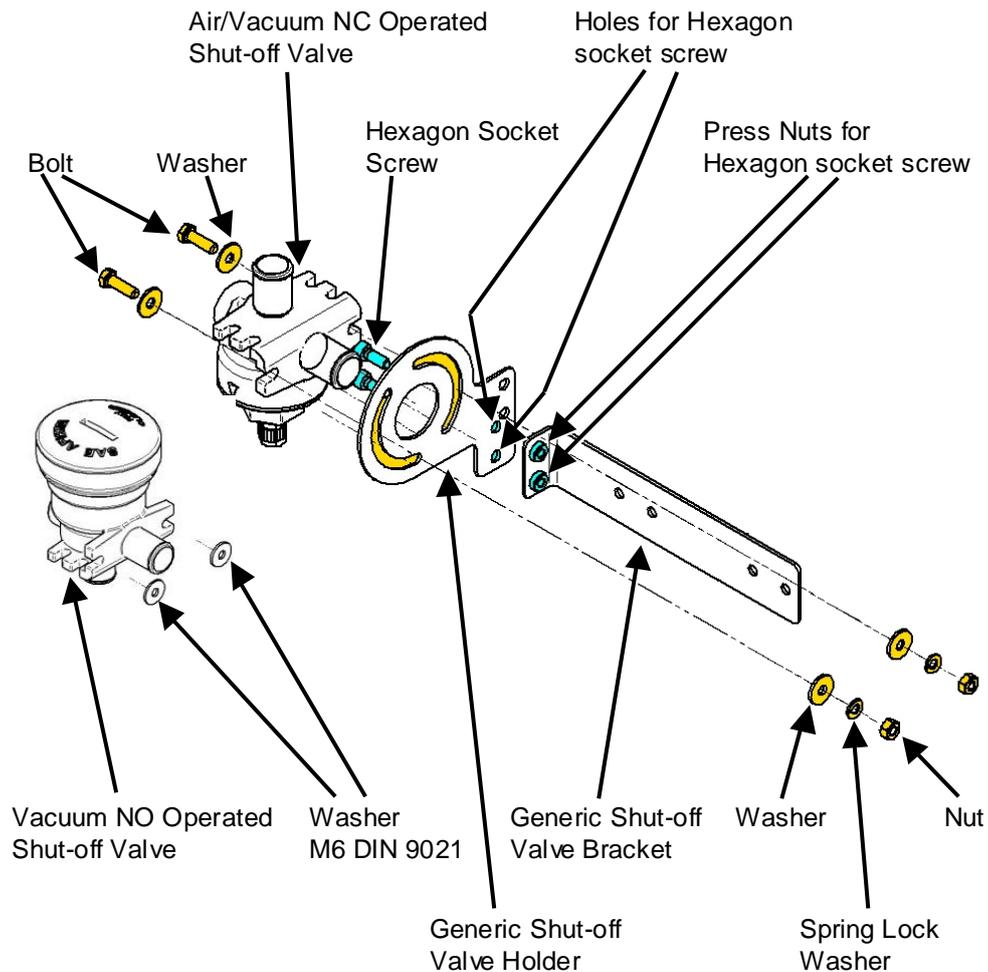
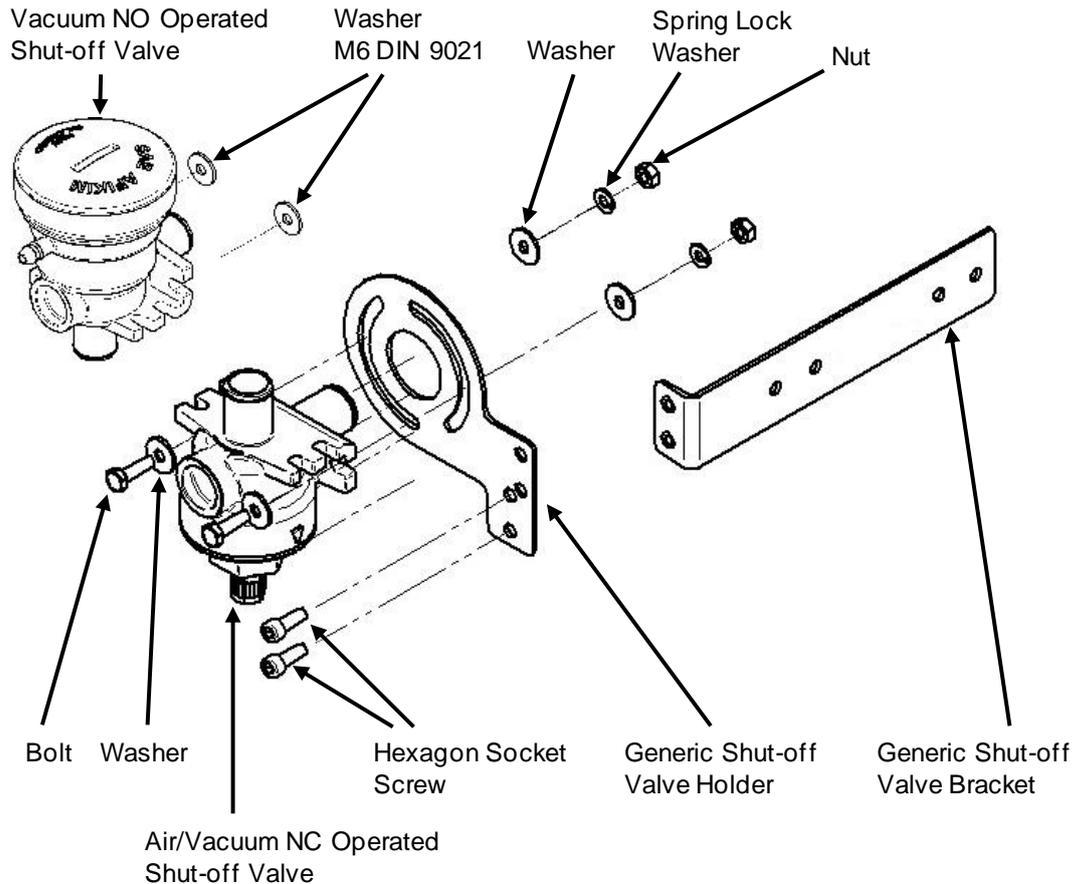

Figure 25: Mounting Shut-off Valve for *AfiFree Body*—Milk Inlet on Left
Figure 26: Mounting Shut-off Valve for *AfiFree Body*—Milk Inlet on Right
- When the *AfiFree Body* has its milk inlet on the left—see Figure 25
- When the *AfiFree Body* has its milk inlet on the right—see Figure 26
CAUTION A vacuum NO operated valve must have washers between it and its holder, as in Figure 25 and Figure 26. This stops the valve pressing against its holder.